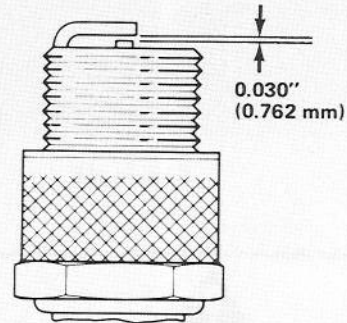

Figure 43
3. Set air gap between electrodes of new spark plug at 0.030 of an inch (0.762 mm) (Fig. 43). Install spark plug in cylinder head and tighten it to 15 ft-lb (20.4 N·m). If torque wrench is not used, tighten plug firmly.